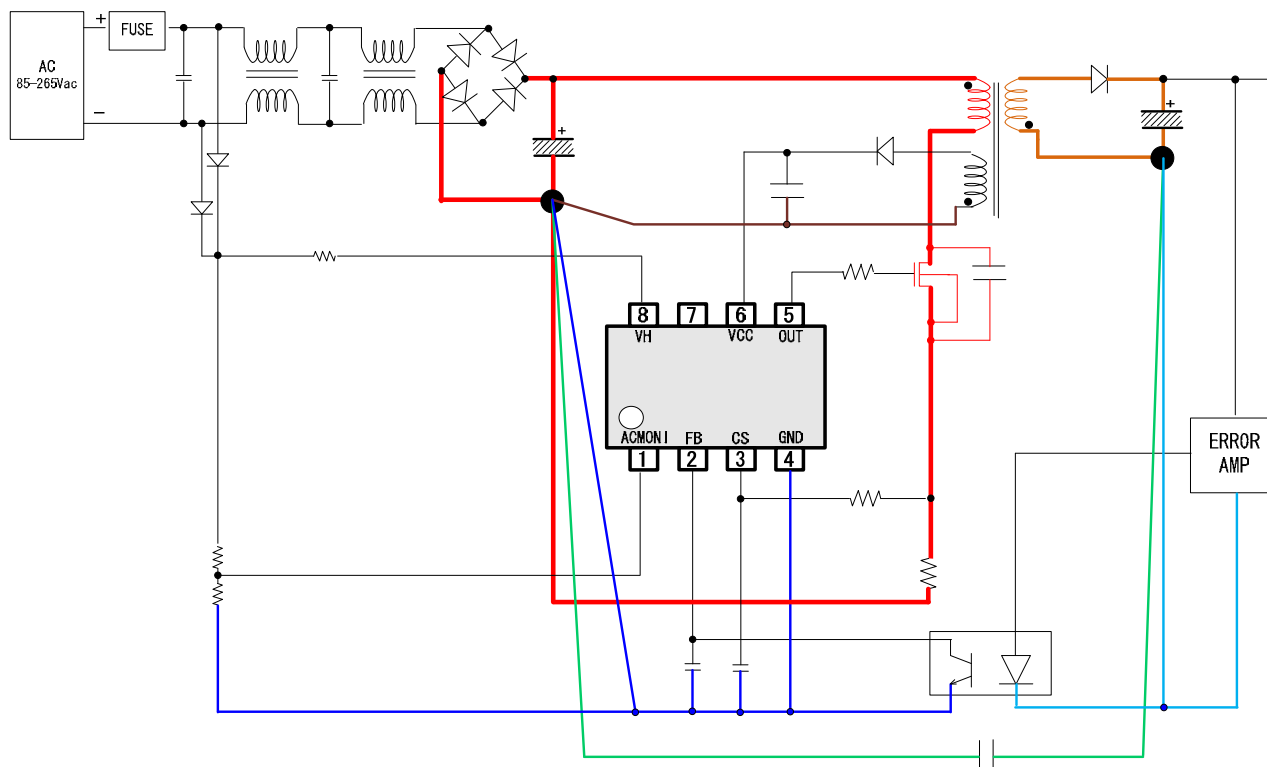

Figure 29. Board Layout Pattern
- ① The red lines shown in Figure 29 are large current pathways. In the layout, these should be as short as possible since they can cause ringing, dissipation, etc. Also, any loops that occur in the red line should be made as small as possible in this layout.
- ② The orange lines in the secondary side of Figure 29 should also be made short and thick like the red lines and should be made with small loops in this layout.
- ③ Be sure to implement grounding for the red lines, brown lines, blue lines, and green lines.
- ④ The green lines are pathways for surges on the secondary side to escape to the primary side, and since a large current may flow instantaneously, they should be laid out independently of the red lines and blue lines.
- ⑤ The blue lines are GND lines for IC control. They do not have any large current flow, but they are susceptible to noise effects, so they should be laid out independently of the red lines, green lines, and brown lines.
- ⑥ The brown lines are current pathways for the VCC pin. A current flows on these lines during switching, so they should also be laid out independently.
- ⑦ Do not route any IC control lines directly under the transformer, since they may be affected by magnetic flux.